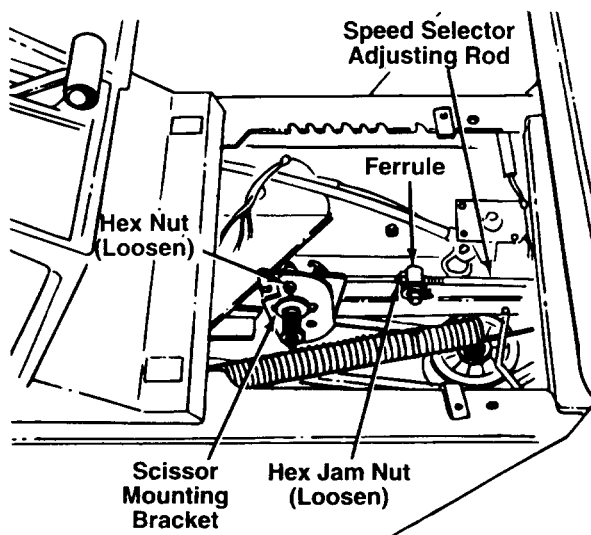
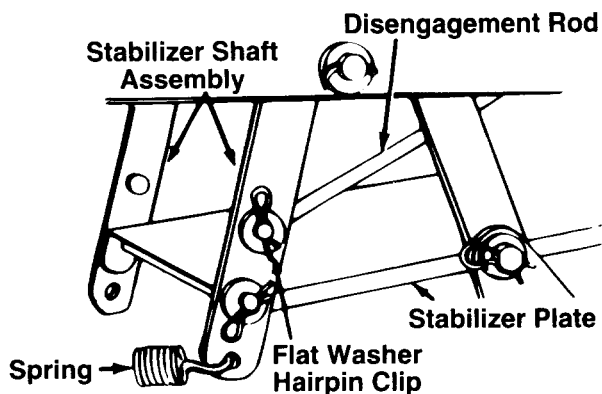

FIGURE 13
FIGURE 14
3. Loosen the hex jam nut on the speed selector adjusting rod. See figure 13.
4. Loosen the hex nut on the scissor mounting bracket. See figure 13.
With the engine off, place the lift lever in the highest cutting position (first position). See figure 14. Remove the cotter pin and flat washer which secure the disengagement rod to the stabilizer shaft assembly. See figure 13. Shorten the rod by threading it in until the ferrule is against the back of the slot in the lift shaft assembly, and the rod lines up with the hole in